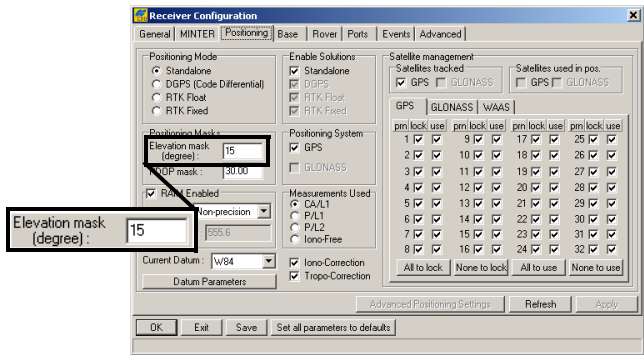

Figure 3-24. Configure Receiver Positioning – Elevation Mask
8. Click the *Positioning* tab, and set the *Elevation mask* to 15 (Figure 3-24), then click **Apply**.